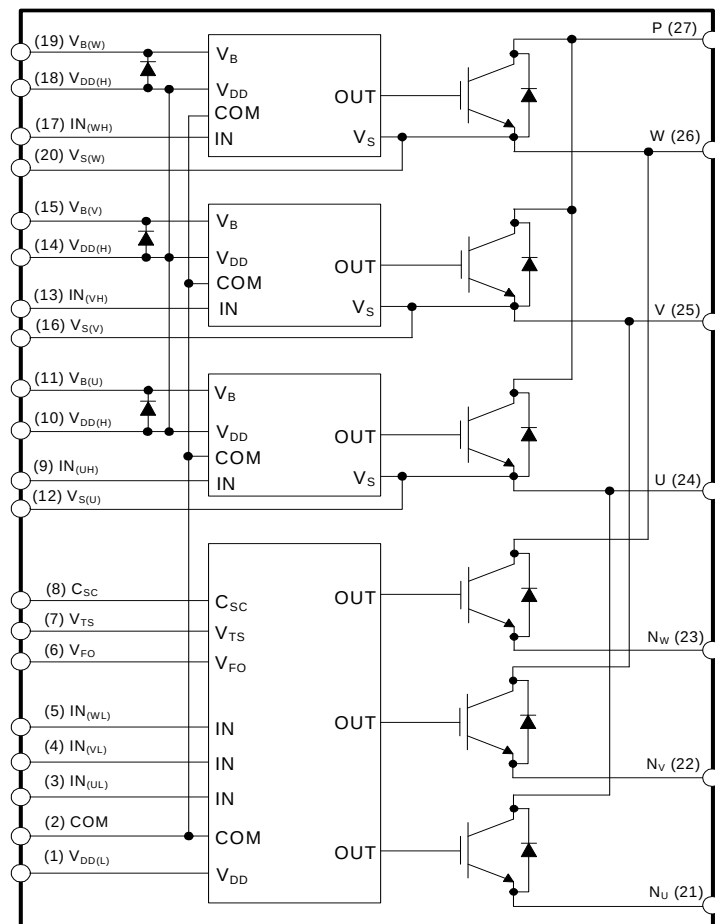

Figure 3. Internal Block Diagram
- 600 V - 40 A IGBT inverter for three-phase DC / AC power conversion (Please refer to Figure 3)